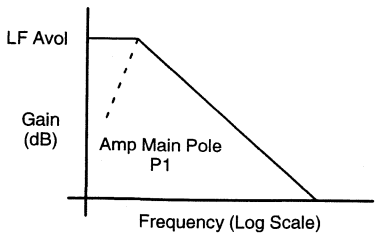

Figure 13. Op Amp Open Loop Characteristics
- 1) The loop gain of the circuit is lowered, making the response more damped (Figures 13, 14, and 15).